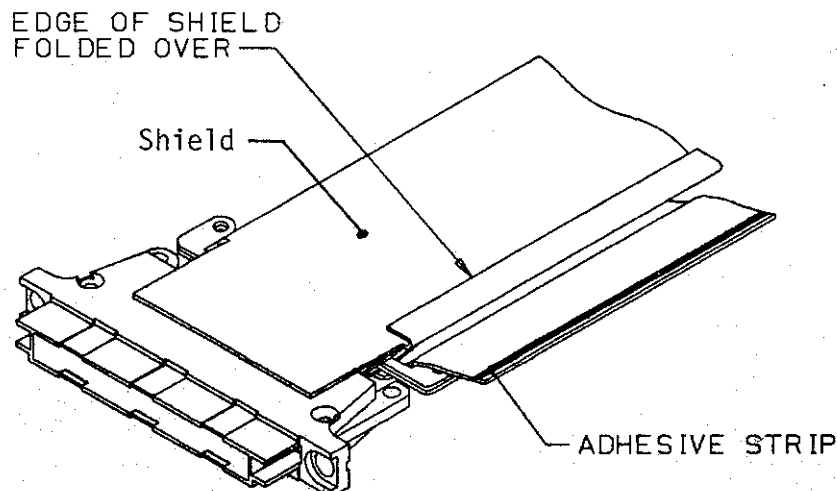

Figure 23. First Edge of Shield Folded Over
6. Fold the narrow edge of the shield (the edge without an adhesive strip) back on itself for the full length of the cable assembly (Figure 23).